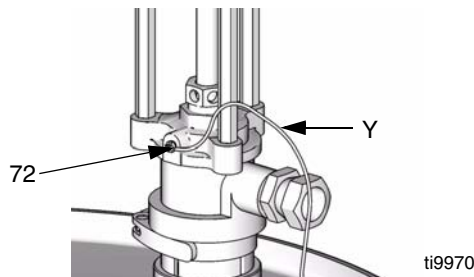

FIG. 9
1. *Pump*: Connect Ground Wire (Y) to grounding screw (72) and tighten the screw securely. See FIG. 9. Connect the other end of the wire to a true earth ground. Make certain to comply with all National, State, and Local Electrical Codes.